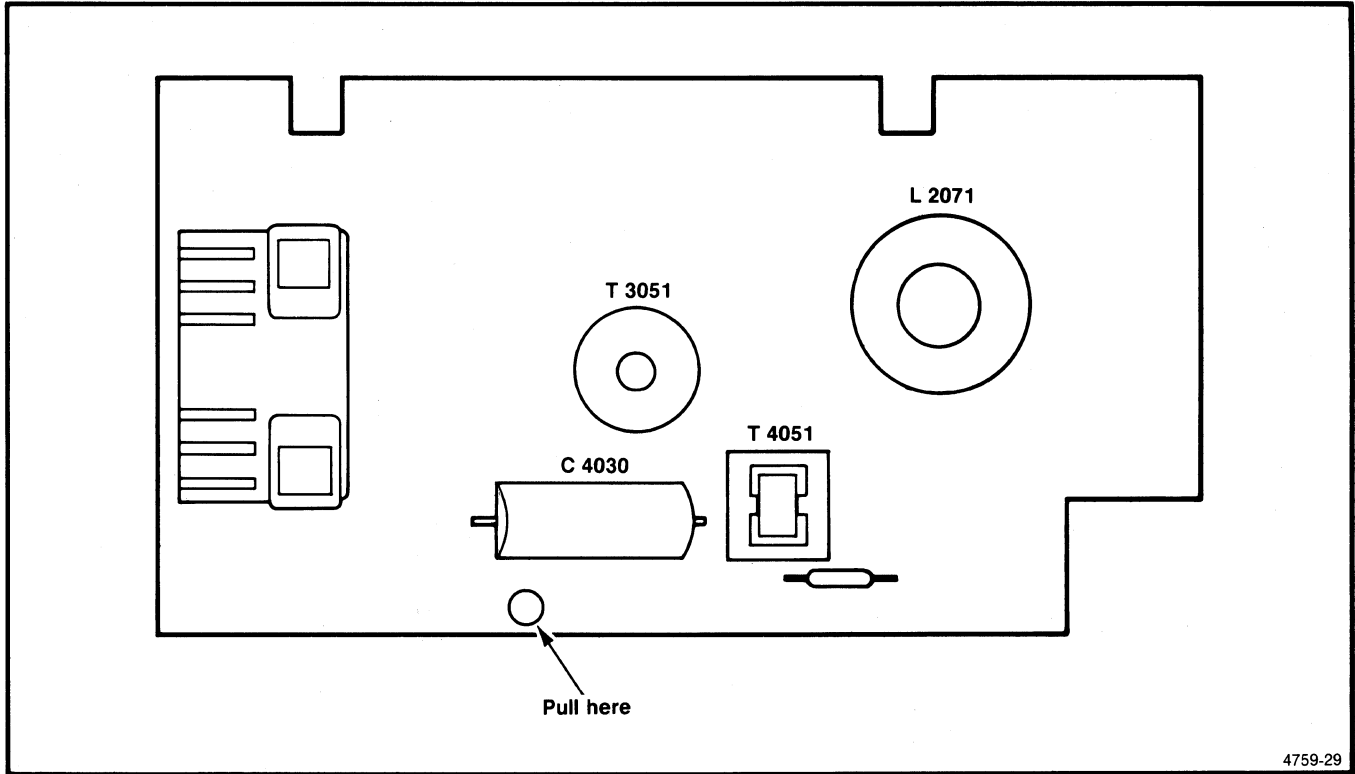

Fig. 12-3. The Inverter Board.
3. Three plug-in circuit boards are now visible through the opening that the fan housing normally covers. The Inverter Board is the lowest of these three boards. To remove the Inverter Board, grasp the left side of the board firmly with a pair of insulated needle-nose pliers (see Fig. 12-3), and pull the board out.